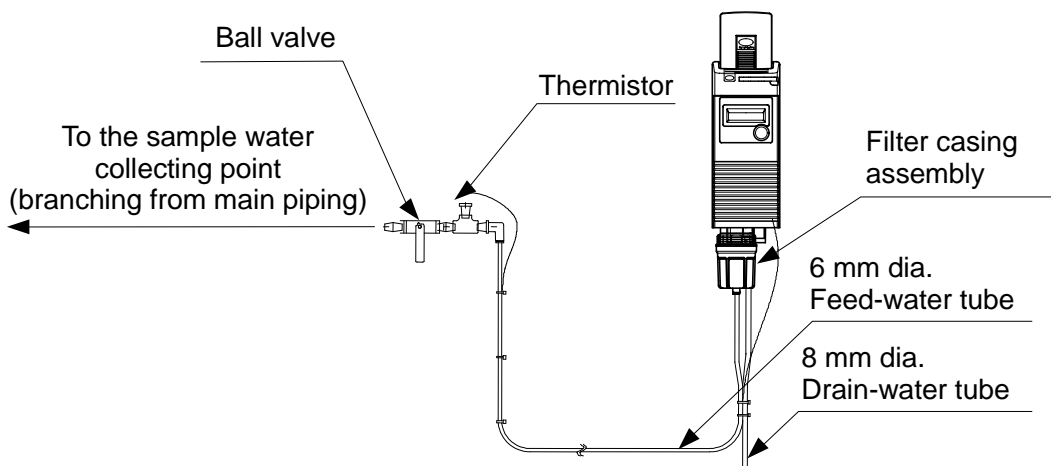

Figure 3-1 Feed-water system
- Open the ball valve at the sample water collecting point and let water run into the feed-water tube (See Fig.3-1).